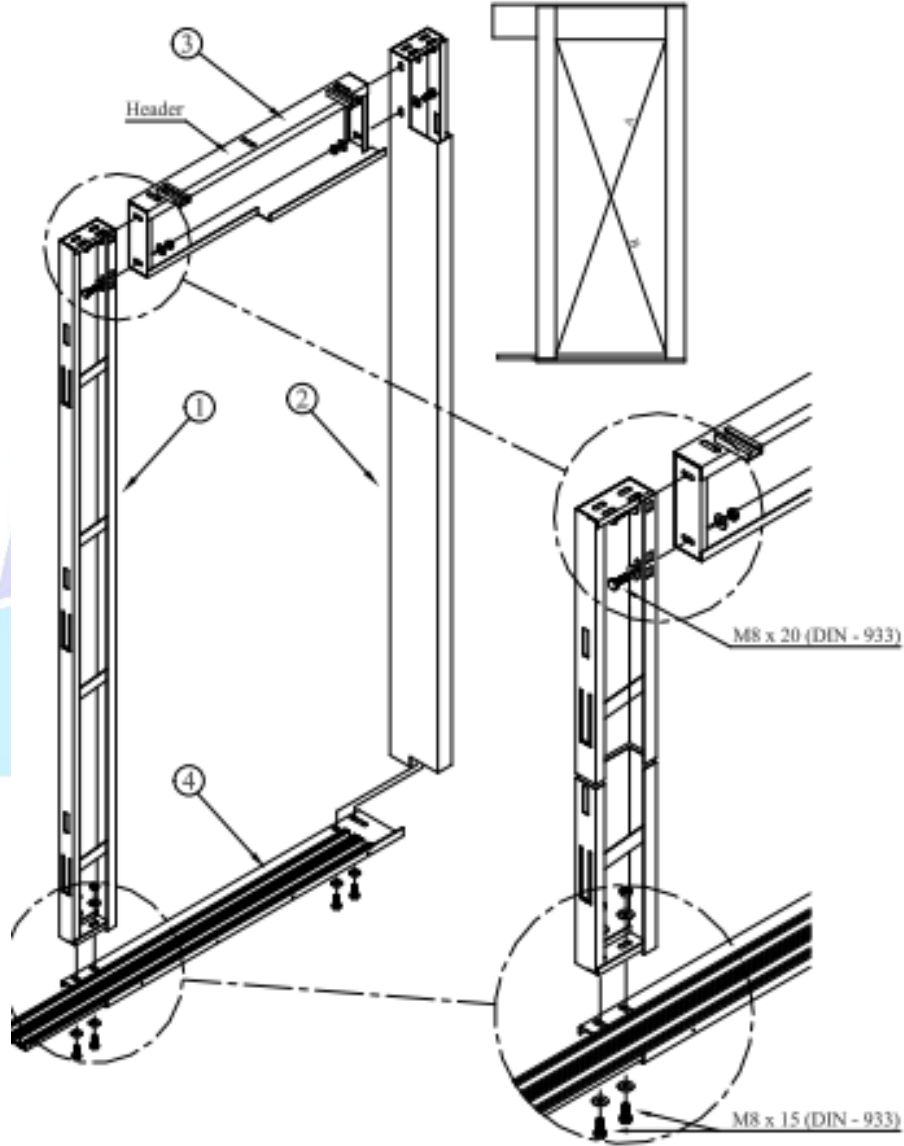

Figure 3
- Install the equipment by their numbers given on the figure 3.